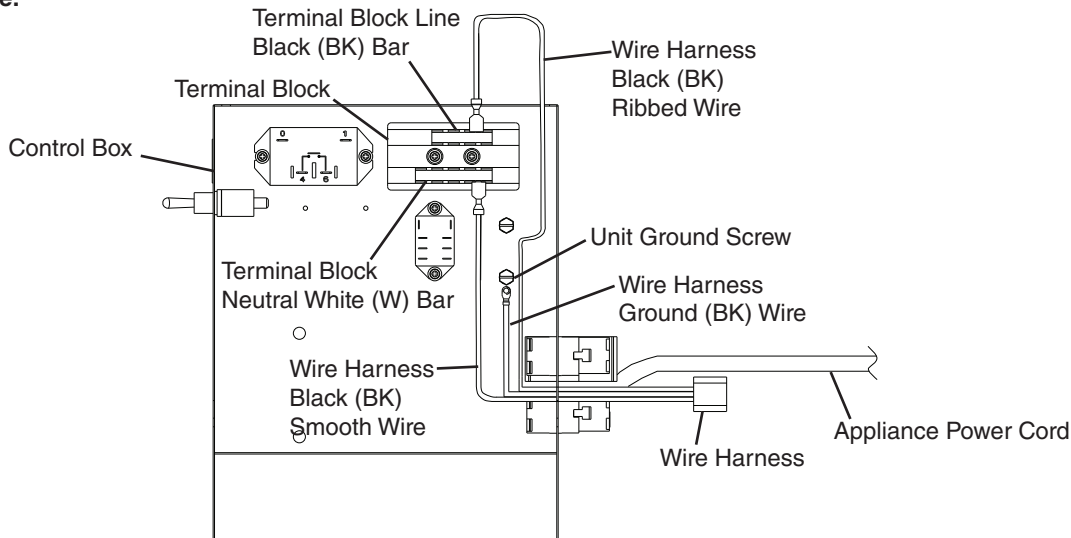

Fig. 10
15) Remove the control box cover. Next, route the wire harness into the control box through the hole with the appliance power cord. See Fig. 10.
16) Connect the wire harness black (BK) ribbed wire to the terminal block line black (BK) bar.
17) Connect the wire harness black (BK) smooth wire to the terminal block neutral white (W) bar.
18) Attach the wire harness ground (BK) ring terminal to the unit ground screw. **WARNING! Make sure grounding wires are attached and secure.**